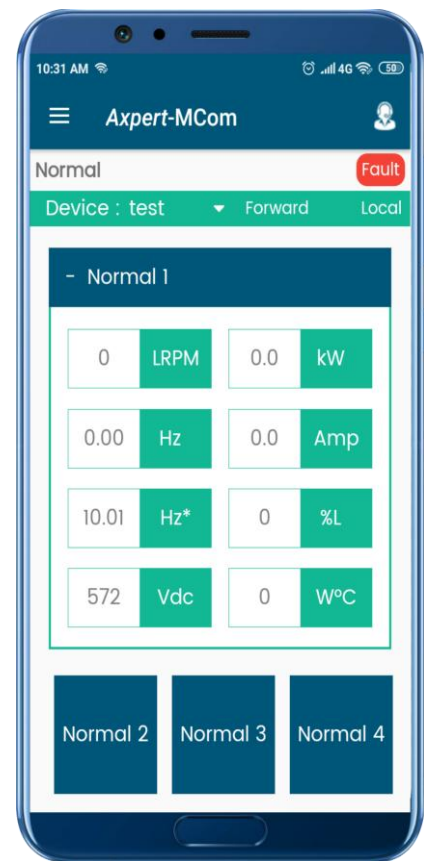

Figure 14b: Fault status
- Moreover, whenever a fault occurs, the product status changes to fault and start to blink. On clicking the fault status, the list of current faults and warnings are displayed with brief description of the fault occurred (Figure 14b and 14c).